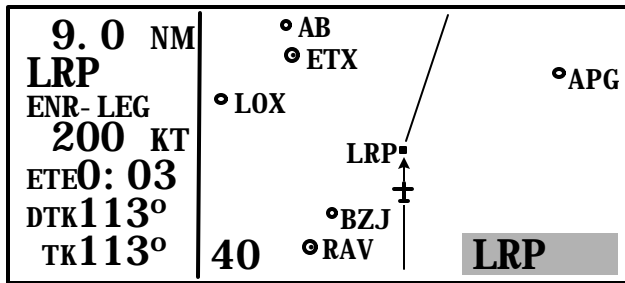

Figure 3D-18. Super NAV 5 Page (Active Waypoint Identifiers)
(11) It is possible to change the active waypoint to any of the flight plan waypoints on this page. Pull the right inner knob to the out position. This will create a window at the bottom right corner of the display that will initially contain the identifier of the active waypoint. Refer to Figure 3D-18. The waypoint contained in this window will be the default waypoint when the direct to button is pressed. By turning the right inner knob, it is possible to scan through the waypoints of the active flight plan. Turning the knob clockwise will scan through the waypoints in sequence until the end of the flight plan is reached. Turning the knob counterclockwise will scan through the active flight plan in reverse order until the beginning of the flight plan is reached. Pushing the right inner knob in will remove the window from the display.